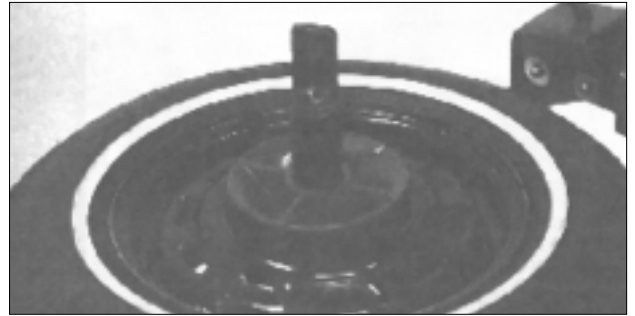

Figure 2 - Thread the Centering Cone onto the Center Post
4. Thread centering cone clockwise onto the center post. As the tapered end enters the center hole of the wheel, the tire/wheel assembly will adjust itself on the table top. Be sure the cone is hand tight and is centered in the wheel's center hole (Fig. 2).